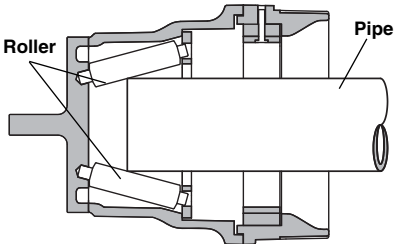

Figure 7A – Pipe OD Deburr Position
2. Remove any inside diameter (ID) burr which could obstruct pipe flow. Use a pipe reamer, file or similar tool.
3. Firmly grip the drill in both hands. Place the prep tool over the end of the pipe, with the pipe end seated in the roller area of the prep tool. *See Figure 7A*. Make sure that the end of the prep tool sufficiently clears the vise and any other obstacles. Squeeze the trigger switch to start the prep tool turning. Firmly press the prep tool into the end of the pipe for approximately 5-10 seconds while the rotating rollers deburr the pipe.